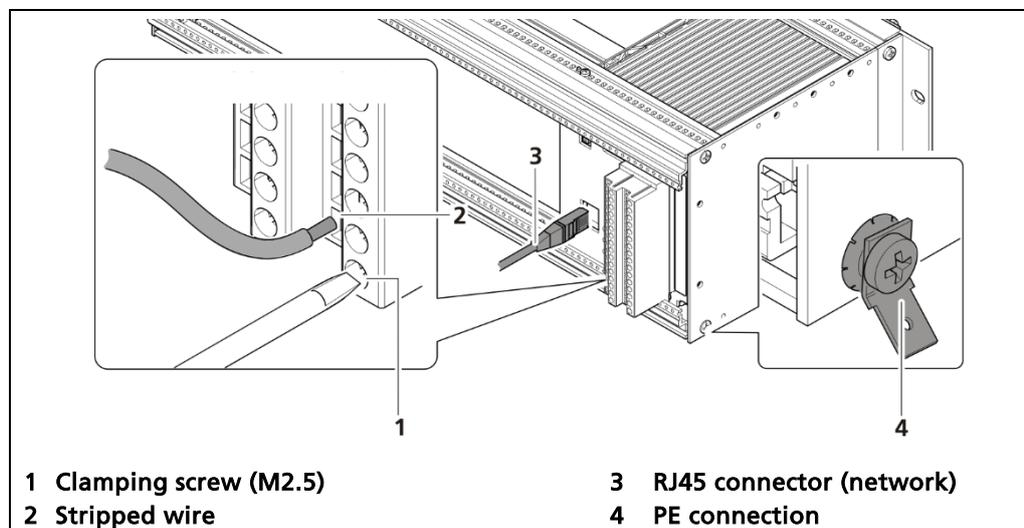

Fig. 19 Electrical connection in the 19" subrack
2. Open the clamping screw (Fig. 19, item 1) and insert the stripped wire (min. 8 mm) (Fig. 19, item 2).
4. Plug the network plug into the RJ45 socket (Fig. 19, item 3) (option).
5. Check the correct connection of the PE conductor (Fig. 19, item 4).